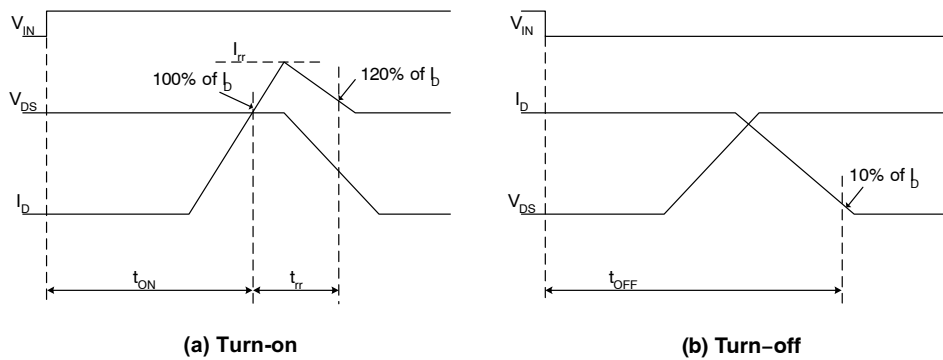

Figure 6. Switching Time Definitions
7. The peak current and voltage of each MOSFET during the switching operation should be included in the Safe Operating Area (SOA). Please see Figure 6 for the RBSOA test circuit that is same as the switching test circuit.